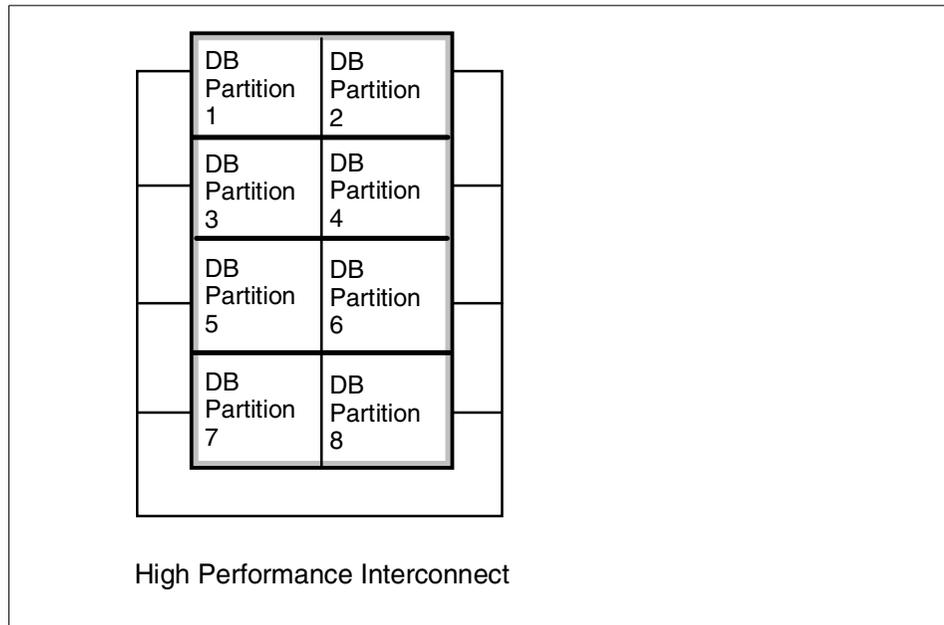

Figure 1-7 High performance commercial computing cluster
- Figure 1-7 on page 21 illustrates a high performance commercial computing cluster.